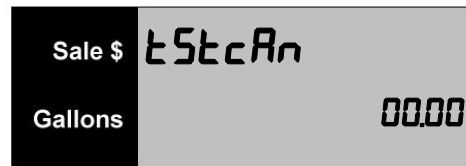

Figure 27.2
2. The main display shows the test can size entry prompt. See figure 27.2. Enter the test can size and press the **ENTER** button. Once the test can size has been entered, the main display for the select dispenser side will show "READY" and the test can size will appear in the first ppv display. The second ppv display will show the volume unit of measure (USG for United States Gallon, LIT for liter or BIG for British Imperial Gallon). See figure 27.3